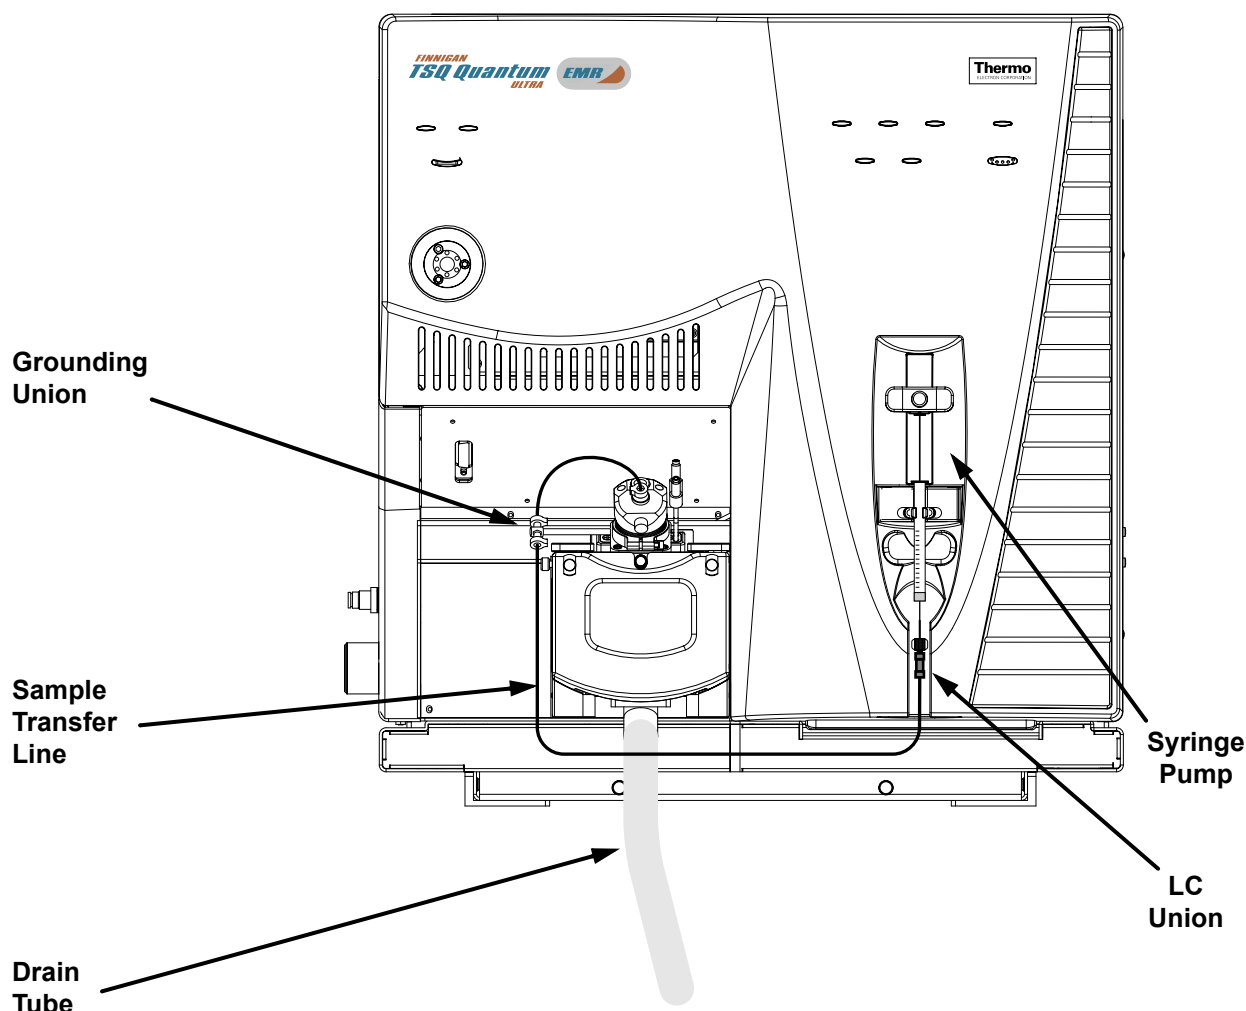

Figure 3-1. ESI/MS plumbing connections for sample introduction by syringe pump direct injection
The syringe and the syringe pump are located on the front panel of your TSQ Quantum Ultra EMR mass spectrometer. The plumbing connections for ESI/MS sample introduction from the syringe pump are shown in Figure 3-1.
1. Install a sample transfer line between the LC union on the syringe adapter assembly and the grounding union on the ion source. (Figure 3-1)